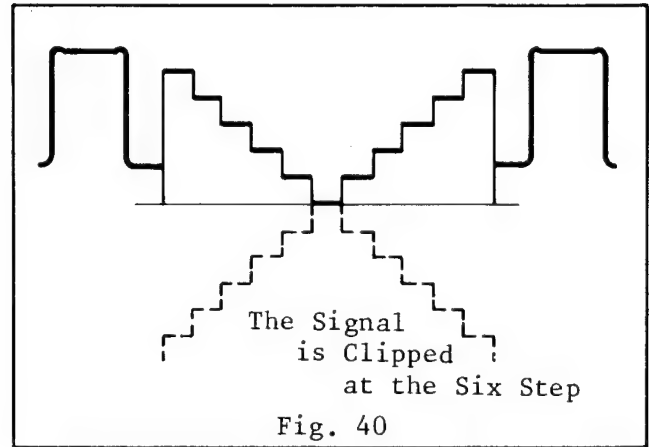

Fig. 40
3. Adjust the gamma reference voltage control, VR307, so that the signal is clipped at the six step from the bottom as shown in Fig. 40.
4. Then, connect the oscilloscope to the connector P306-pin (1) and observe the NTSC signal at H. rate. Trigger the oscilloscope with test point TP608.